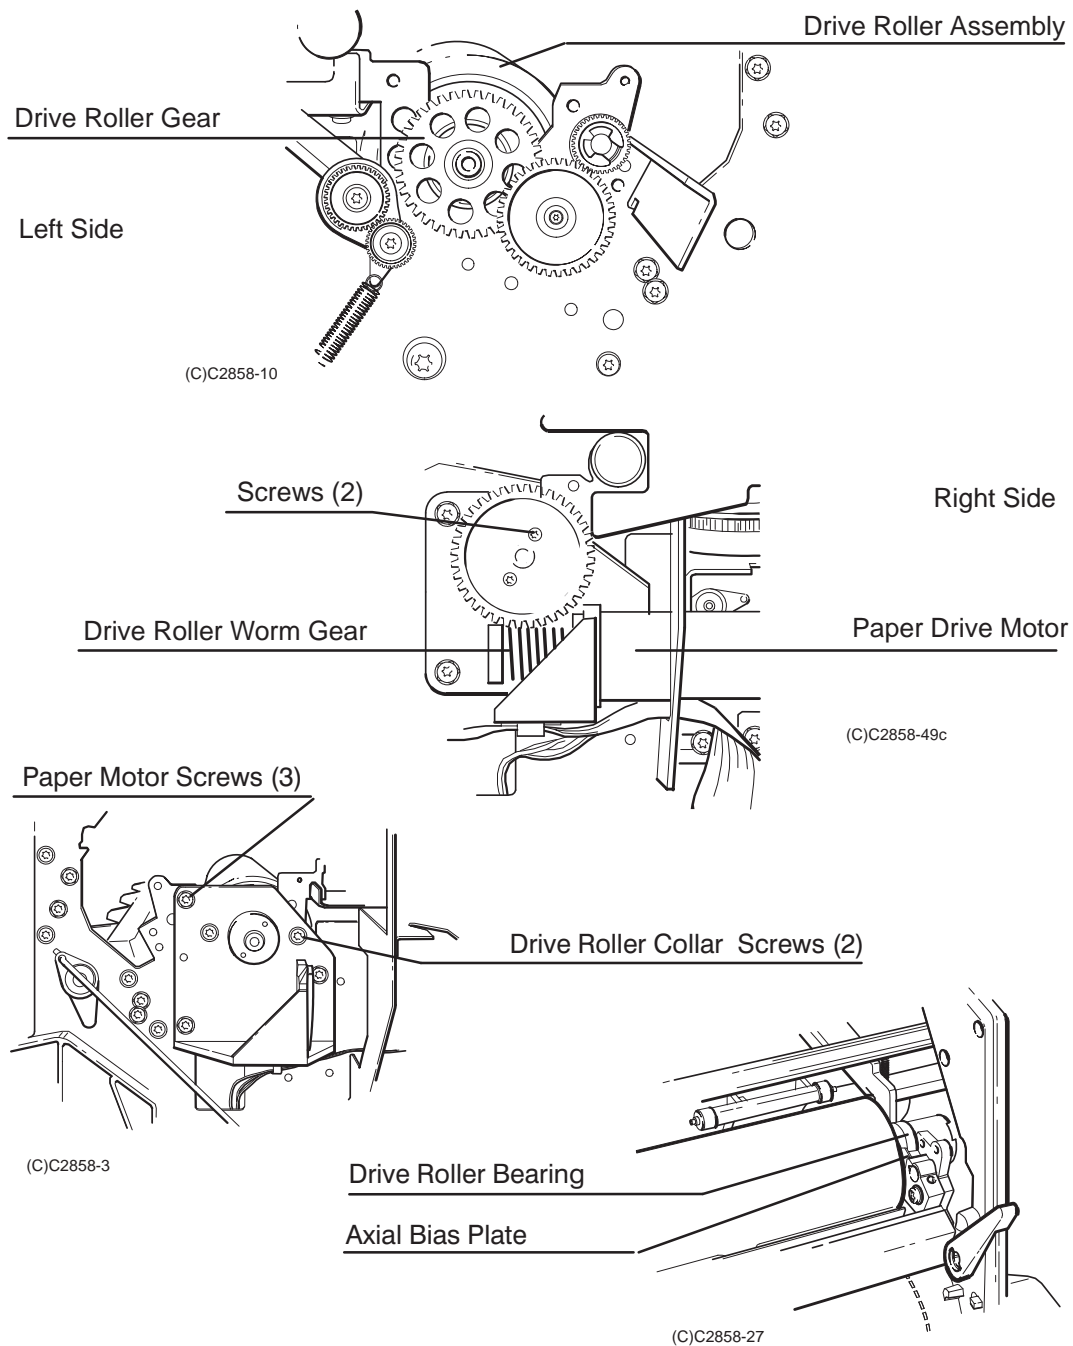

Figure 6-34.
While removing the drive roller assembly, see Figure 6-34.
8. Using a TORX T-10 screwdriver, remove the two screws that secure the drive roller worm gear to the drive roller shaft. See Figure 6-34.